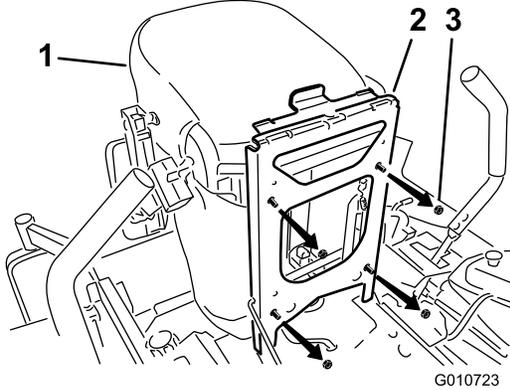

Figure 2
2. Remove the nuts holding the seat to the seat frame (Figure 2).